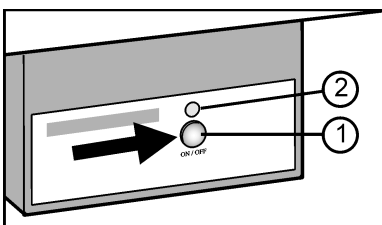

Fig. 6
- Press On/Off button *Fig. 6 (1)* so that the LED *Fig. 6 (2)* lights up.